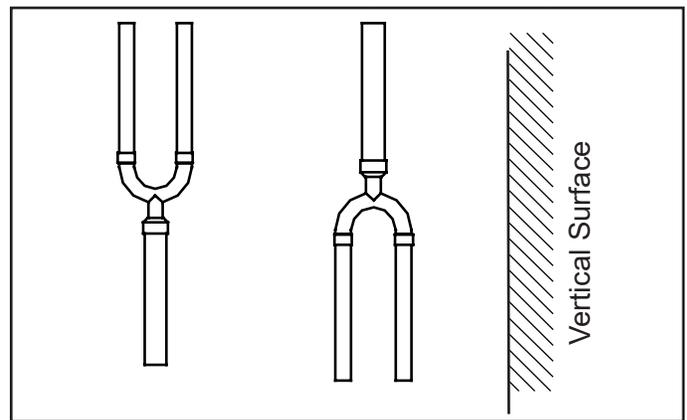

Figure 19. Vertical Installation
- The piping can be cut to suit the installation needs. See figure 19.